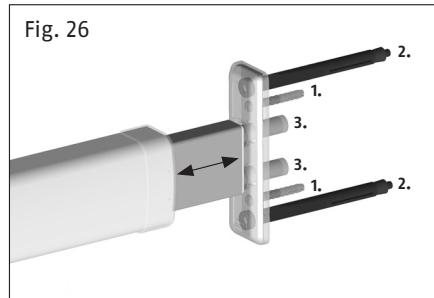

Fig. 26
- Lock the door bar onto the wall until the end stop. Mark out the attachment points (1.) of the wall strike plate. Close back the door bar (Fig. 26).
- Pre-drill the attachment points for the wall strike plate with Ø 6 mm, insert the dowel and screw (Fig. 26).
- Drill through both of the external mounting holes (2.) with Ø 10 mm, and a depth of at least 140 mm. Insert the complete dowel with the screw and tighten (Fig. 26).
- Drill out the holes for the connecting bolts (3.) with Ø 14 - 16 mm, width a depth of 70 mm (Fig. 26). Press down the plastic cover.